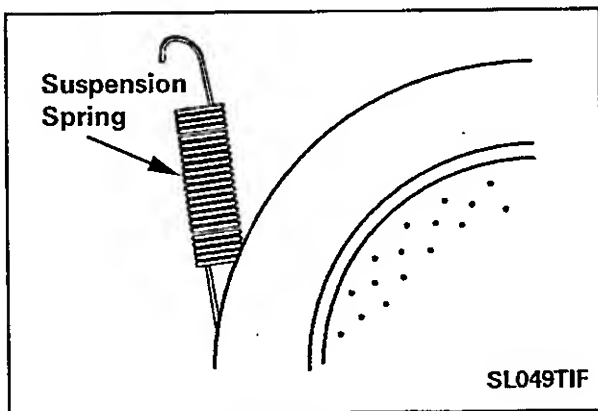

Figure 6-1
3. Allow the front shroud to suspend down in front of the washer to expose the front suspension springs (*Figure 6-1*).